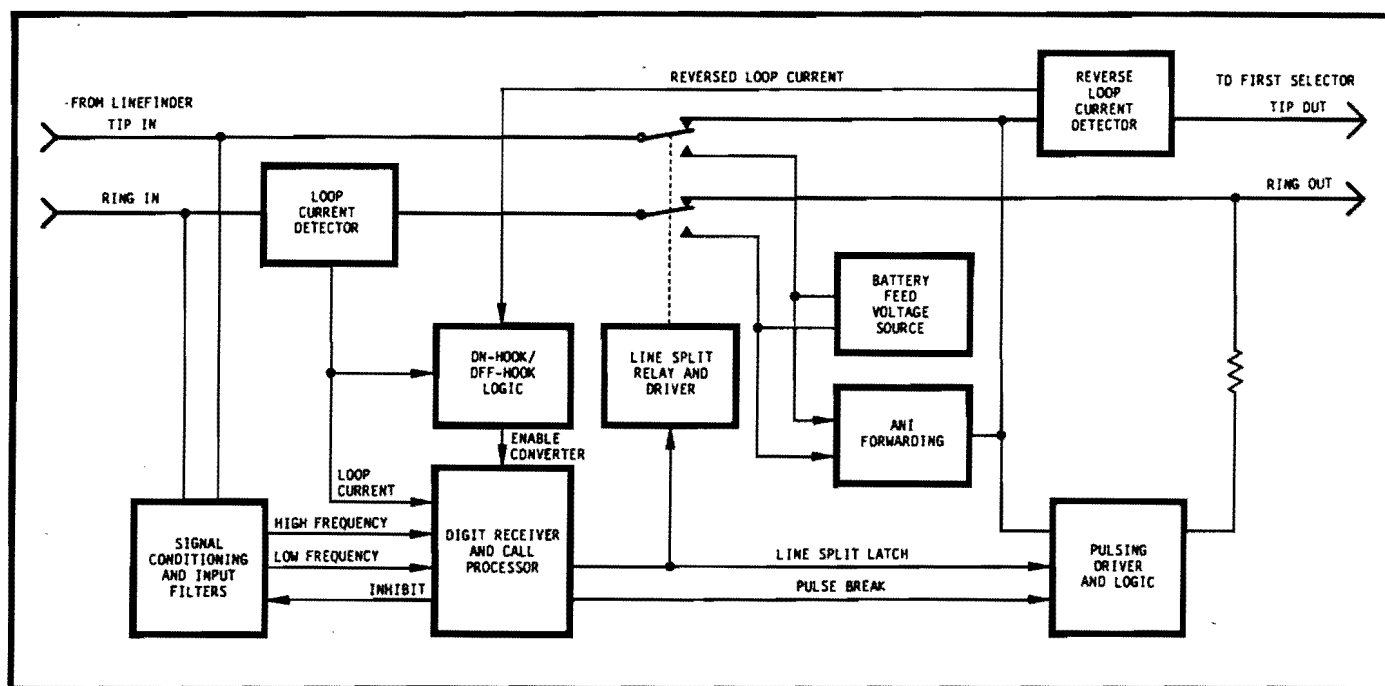

Figure 4 Block Diagram
4.03 The M-164 digit receiver shown in Figure 4 is enabled at the end of a 130 ms blanking period which follows recognition of an off-hook. (This blanking period prevents switching transients from being considered as signals.) The input stages of the receiver provide DC isolation, protection from excessive line voltages, and dial tone filtering. The bandsplit stages of the receiver separate each DTMF digit into its high-frequency and low-frequency components, in which form it is forwarded to control logic for validation.